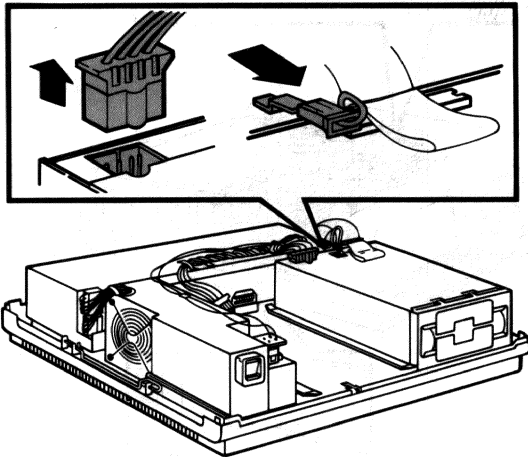

Figure 5-30 Unplugging 4-Wire Cable and Ground Clip
2. Unplug the 4-wire power connector from the diskette drive(s), as shown in Figure 5-30.
3. Unplug the ground clip from the ground lug on top of the power supply, Figure 5-30.